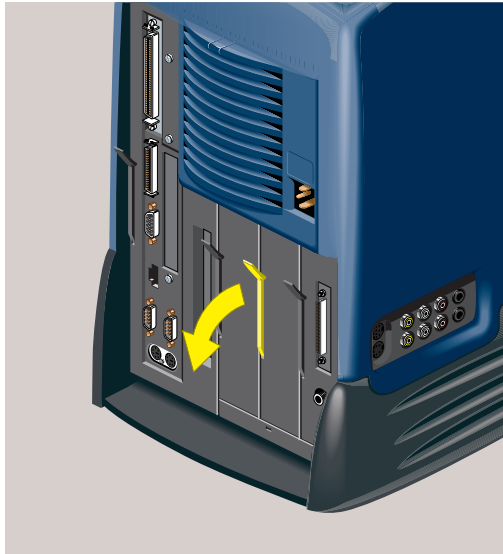

Figure 3-14 Releasing the Optional Drive Module
2. The second hard disk is in the optional drive bay—the one between the system drive and the audio-visual module. Pull down the lever on the left side of the optional drive module to release it (Figure 3-14).